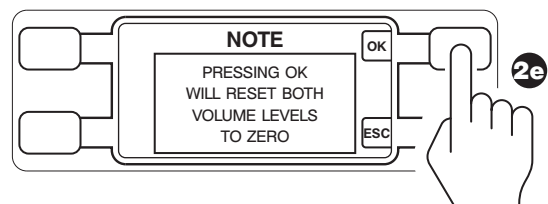

Figure 23 To Reset Volume Level to Zero
- e. If the RESET VOLUME button is pushed, a confirmation screen will appear. Push the control panel display button next to OK to reset the volume levels to zero (Figure 23).